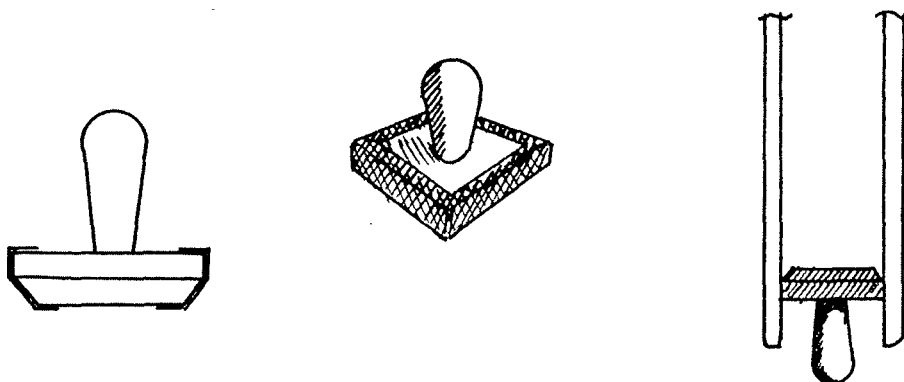

Figure 2
5.3 The stopper shall fit snug in the column thus creating an airtight fit. (See Figure 2)